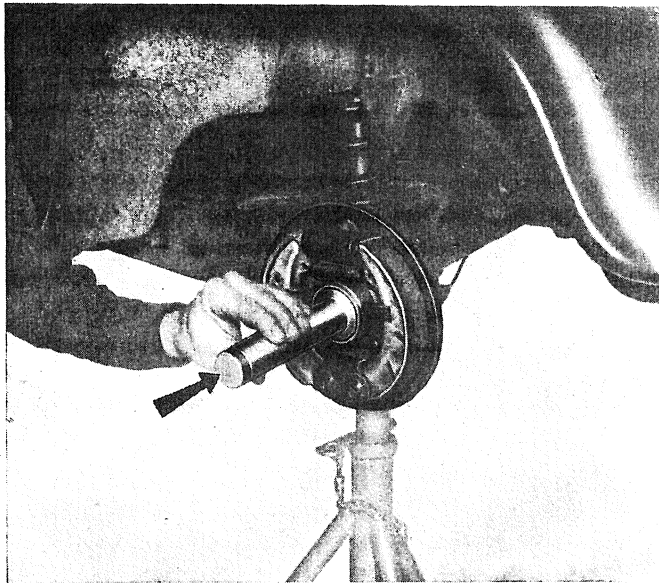

Fig. 309 - Installing inner and outer bearing inner and outer rings using tool A. 66035.
- A. 66035 (fig. 309), to install roller bearing inner and outer rings;